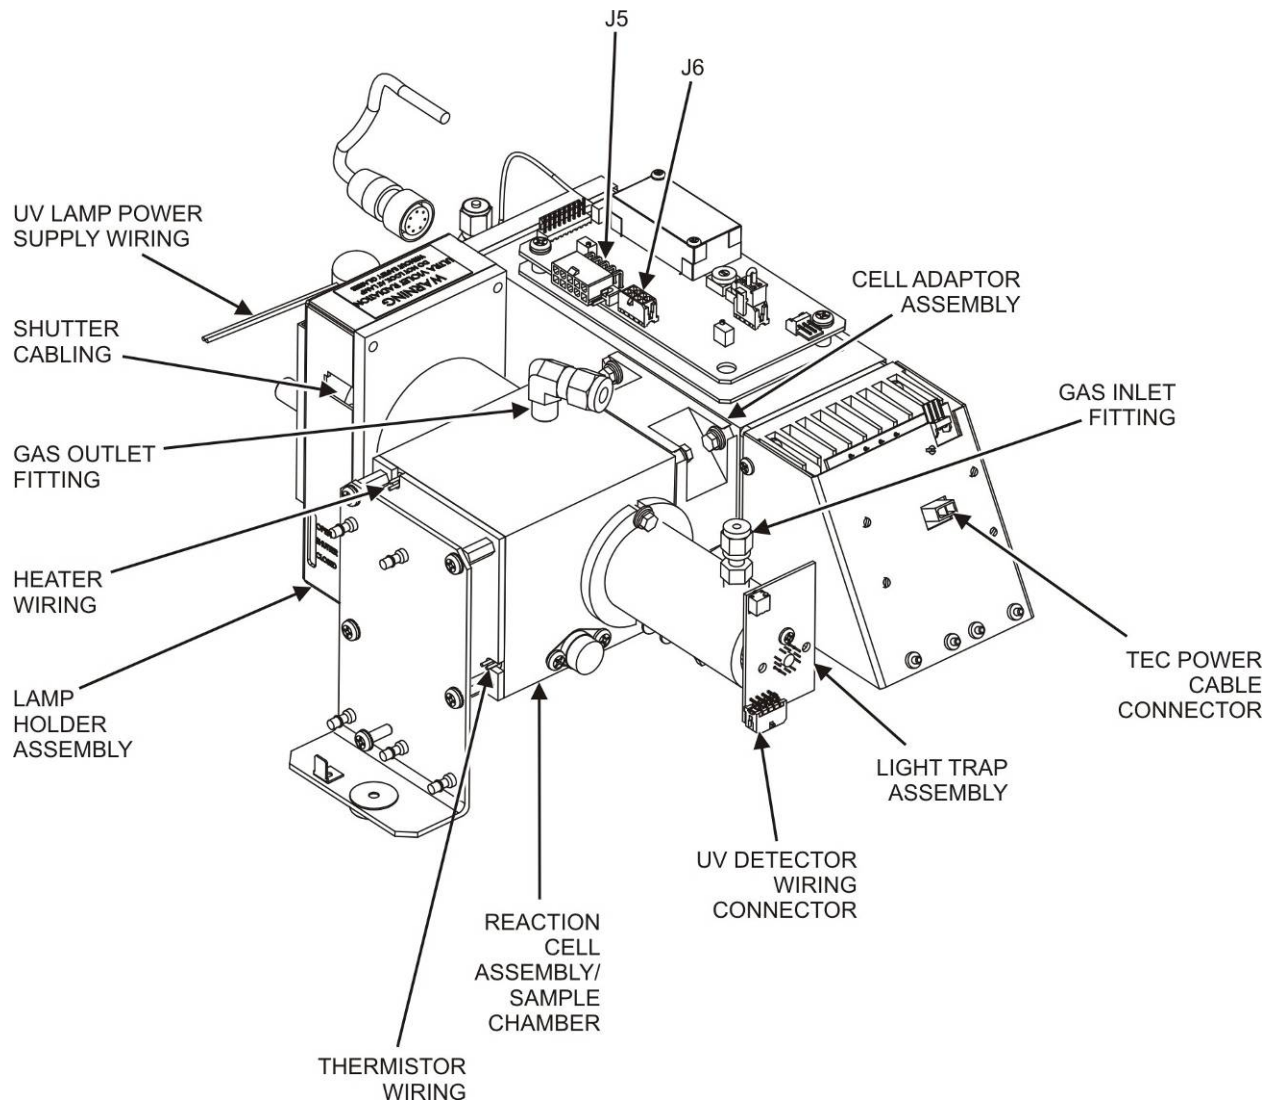

Figure 11-6: Sensor Module Wiring and Pneumatic Fittings
3. Disconnect the sensor module pneumatic lines (refer to Figure 11-6)